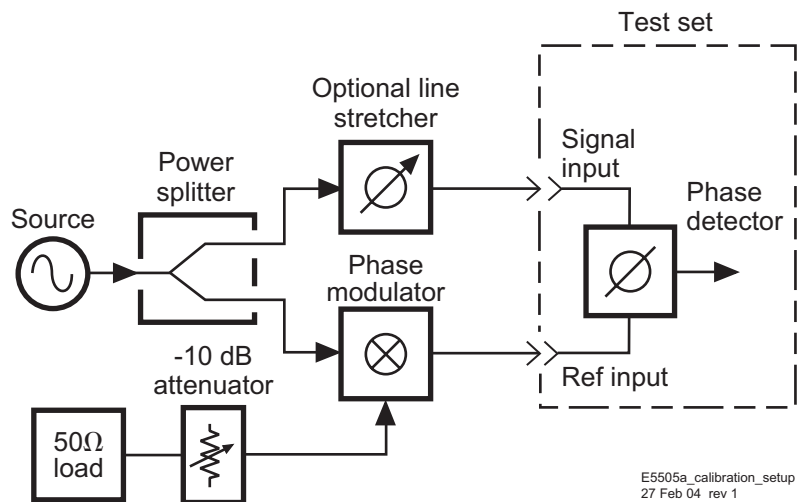

Figure 157 Calibration setup
- 1 Connect circuit as per Figure 157 and tighten all connections.